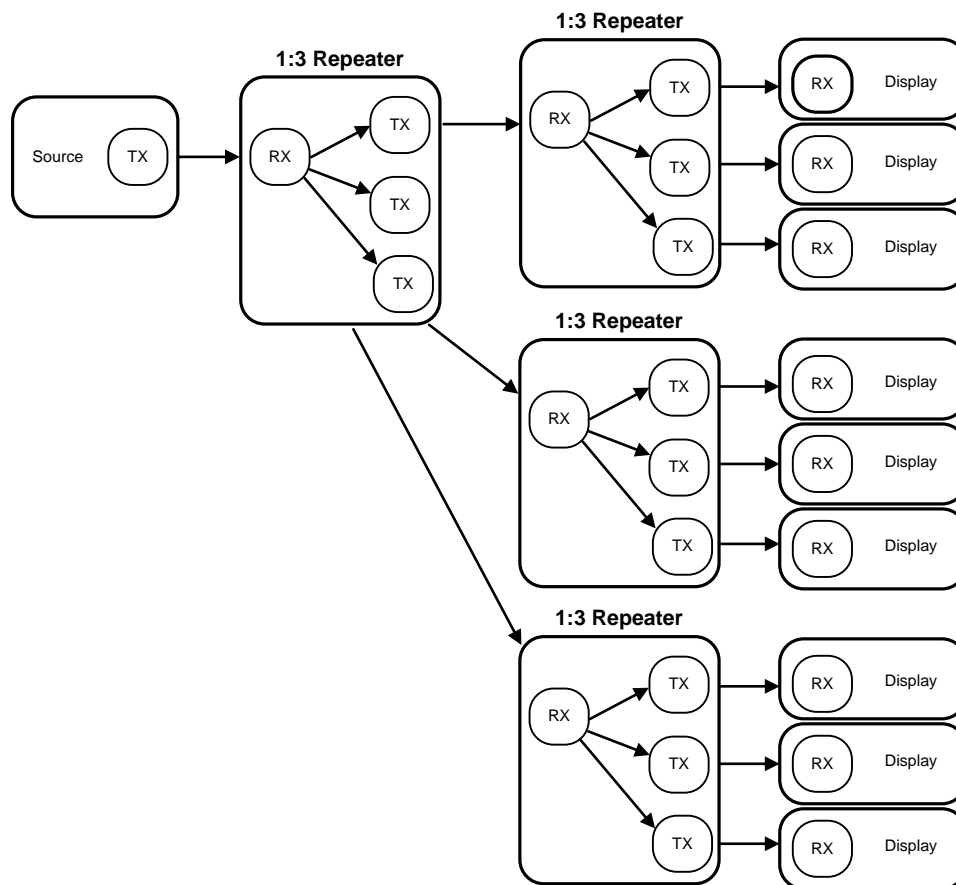

Figure 15. HDCP Maximum Repeater Application
In HDCP repeater application, In this document, the DS90UH925Q is referred to as the HDCP Transmitter or transmit port (TX), and the DS90UH926Q is referred to as the HDCP Receiver (RX). Figure 15 shows the maximum configuration supported for HDCP Repeater implementations using the DS90UH925Q (TX) and DS90UH926Q (RX). Two levels of HDCP Repeaters are supported with a maximum of three HDCP Transmitters per HDCP Receiver.